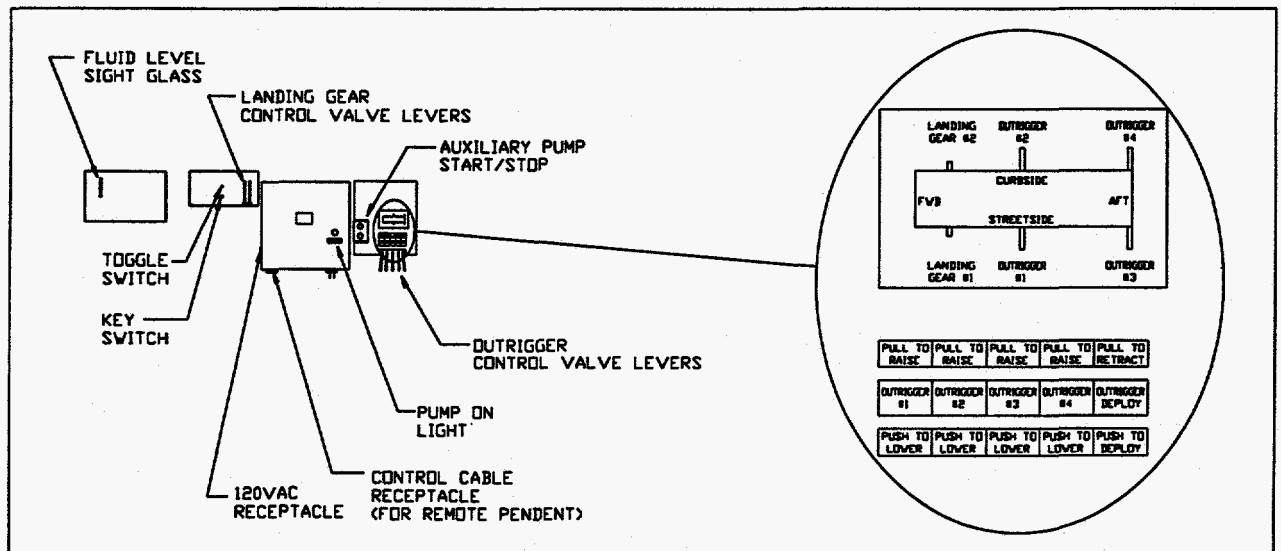
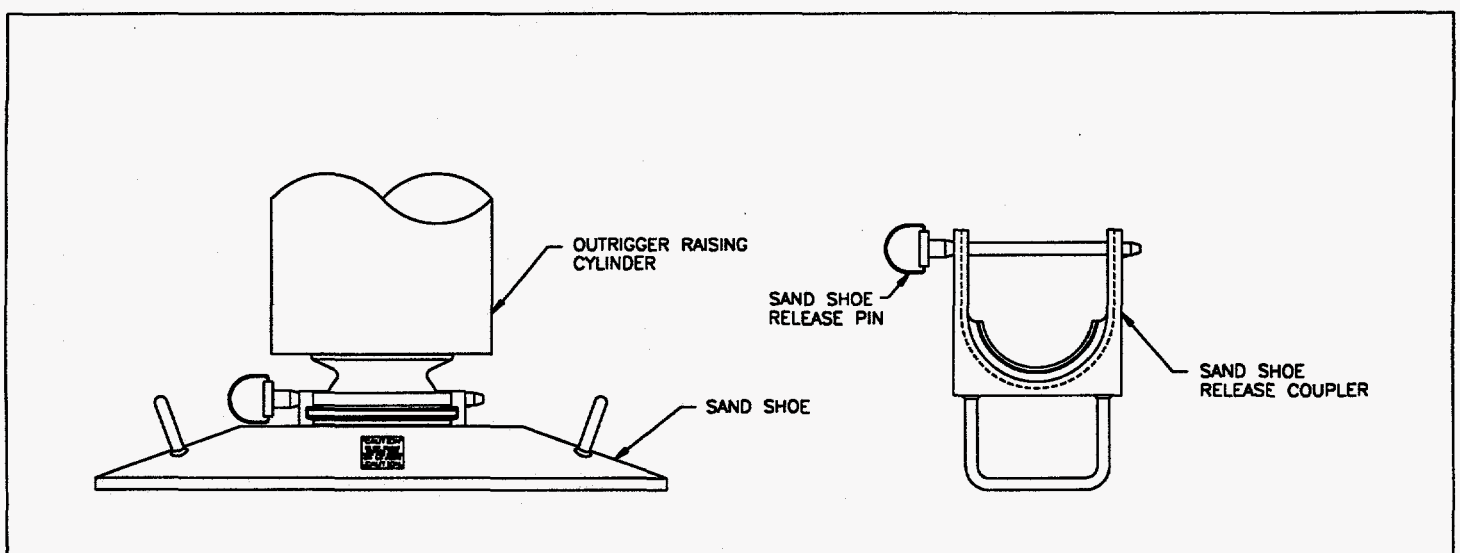

FIGURE 2, TRAILER MOUNTED CONTROLS
FIGURE 3, SAND SHOE
- 6 Check the outrigger control valves for signs of damage (Figure 2, page 7). Check the actuation of each valve. The lever should move smoothly and solidly to the stops in both directions and should spring back to the neutral position.
- 9 Check the landing gear control valves for signs of damage (Figure 2, page 7). Check the actuation of each valve. The lever should move smoothly to the stops in both directions and should spring back to the neutral position.
- 1 Turn the key switch fully clockwise (Figure 2, page 7).
- 3 Locate the remote pendent and verify that all control switches on the pendent are in the neutral or OFF position. Plug the control cable into the receptacle located on the NEMA 4X control box (Figure 2, page 7). This is done by inserting the plug and twisting it counter clockwise.
- 3 Start the auxiliary pump by pushing the pump start button located at the trailer mounted control panel (Figure 2, page 7).
- 4 Deploy the outriggers to the operational position by pushing in the **OUTRIGGER DEPLOY** lever located at the trailer mounted control panel (Figure 2, page 7). The outriggers will move to the fully extended position one at a time.
- 5 Place the sand shoes on the ground below the outrigger cylinders. Verify that the sand shoe release pin and coupler are removed from the sand shoes (Figure 3, page 8).
- 6 The outriggers are raised and lowered by actuating the **OUTRIGGER #** levers located at the trailer mounted control panel (the lever # indicates the outrigger # as shown on the placard, Figure 2, page 7). Lower the outriggers one at a time so the ball of the cylinder fits into the socket of the sand shoe. Extend the outriggers just enough to load the cylinders slightly, do not lift the trailer with the outriggers at this point. Attach the sand shoe release couplers and pins (Figure 3, page 8).